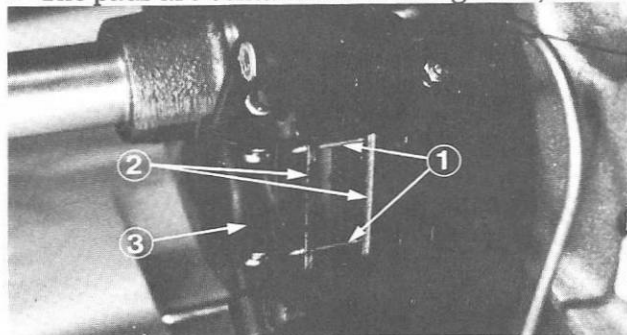

Fig. 41 ① Cotter Pins ③ Brake Caliper
5. Check the two pads (Figure 41).
1. Remove both cotter pins (Figure 41).